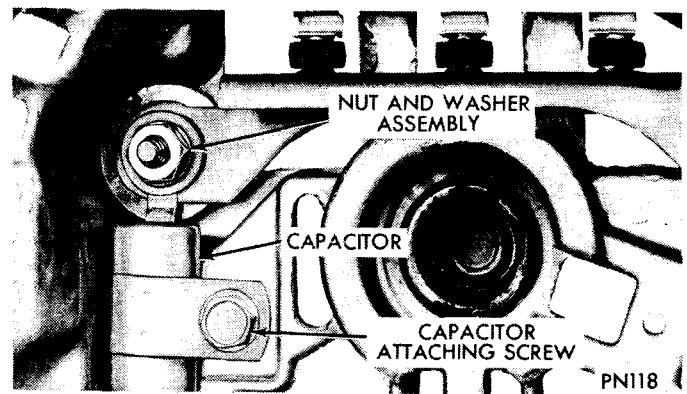

Fig. 20—Removing Capacitor
- (3) Turn end shield over and remove nut and washer assembly from end shield stud (attaching capacitor). Remove screw that attaches capacitor to case, (Fig. 20).
- (4) Lift out capacitor and insulated washer and heat sink assembly. Remove round plastic insulator from "BAT" terminal hole.
- (5) Remove mica insulator from end shield stud. If negative heat sink diode straps were under positive heat sink diode straps perform step 1.